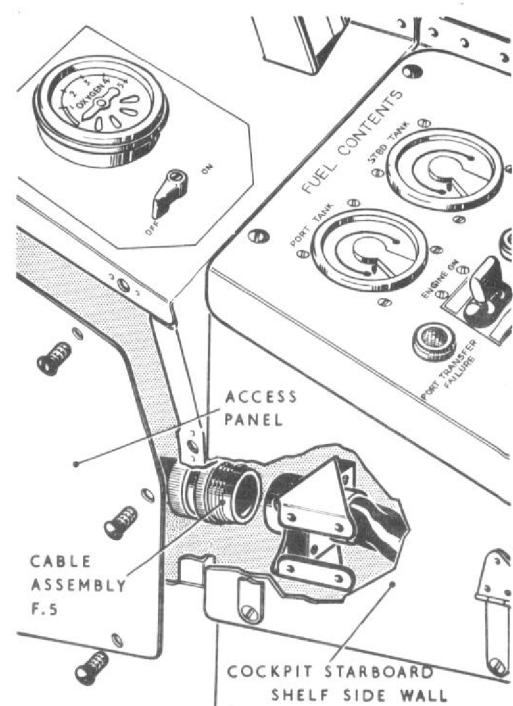

Fig.4. Plug at forward end of cockpit starboard shelf.
- (1) Render the aircraft electrically safe, as described in Group A.1.
- (2) Disconnect all the plugs and sockets of the cable assemblies at the end plate at the rear end of the shelf. Seal off the plugs and sockets with approved caps and covers and stow the cable assemblies away from the shelf.
- (3) Disconnect cable assemblies F.33A and F.33B from the A.C. junction box and the cable break point, fit approved caps and covers to the plugs and sockets and coil back the cable assemblies to the starboard shelf.
- (4) Release the shelf from the fixed structure by disengaging the fasteners around the top face and side wall.
- (5) Disconnect cable assembly F.5 from the plug mounting bracket at the forward end of the shelf (fig.4). Seal off the plug and socket with an approved cap and cover.
- (6) Disconnect the flat plug and socket connecting cable assembly F.117 to F.118. Stow cable assembly F.118 and cable assembly F.5 clear of the shelf.
- (7) Disconnect the socket connection from the I.F.F. control unit and stow the cable clear of the shelf.
- (8) Remove the radio compass control unit from the shelf, as described in Section 6, Chapter 1, and put the unit in a place of safety.
- (9) Disconnect the flexible drive from